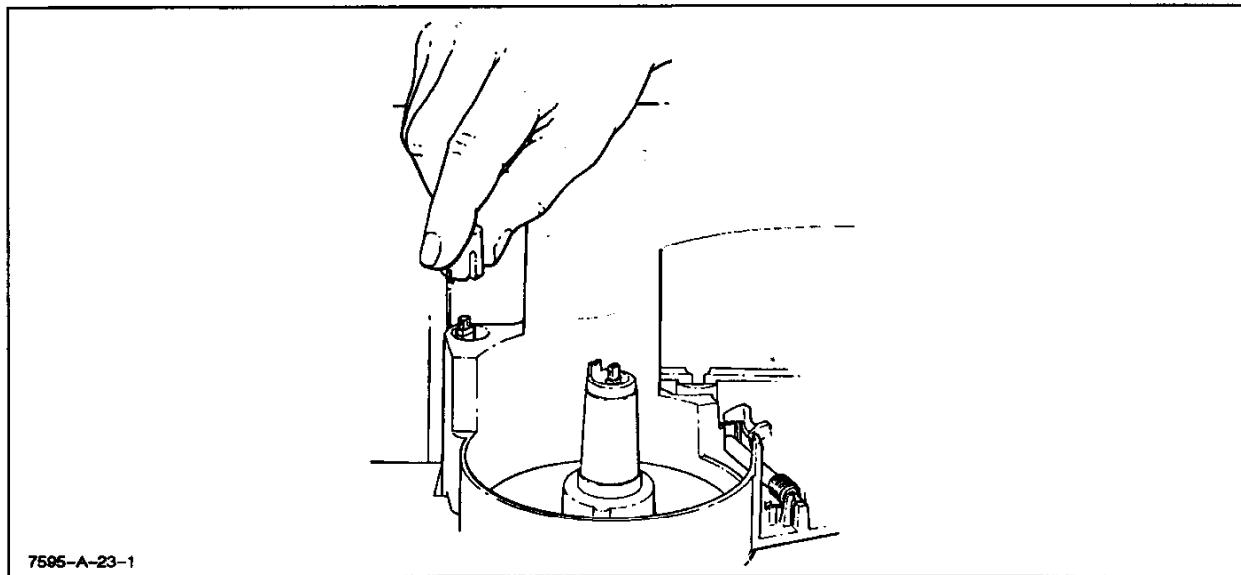

Figure 6-8. Photoemitter/Sensor Removal
- a. Turn the plotter line switch to OFF (O) and disconnect the ac power cord.
c. To access the photoemitter, simultaneously squeeze and lift the photoemitter cap. Note the position of the node on the photoemitter for ease of reassembly. See Figure 6-8.
- d. To access the photosensor, simultaneously squeeze and lift the photosensor cap. See Figure 6-8. Note the position of the flat side of the photosensor for ease of reassembly.